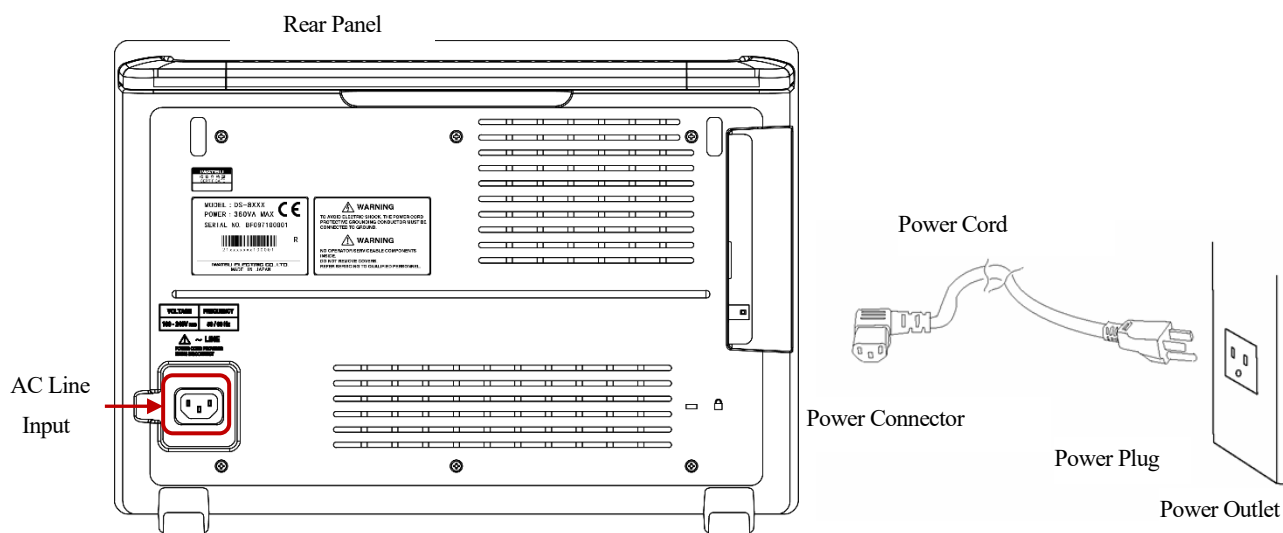

Figure 1.2 Power Cord Connection
1. Connect the supplied power plug into the AC line input (~ LINE) on the Rear panel (see Figure 1.2).
2. Connect the other plug of the power cable to a power outlet (see Figure 1.2)